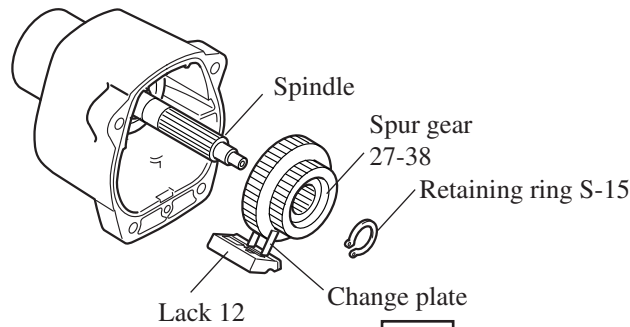

Fig.9
- (2) Assemble change plate to lack 12, and clip spur gear 27-38 with change plate as illustrated in Fig.9.